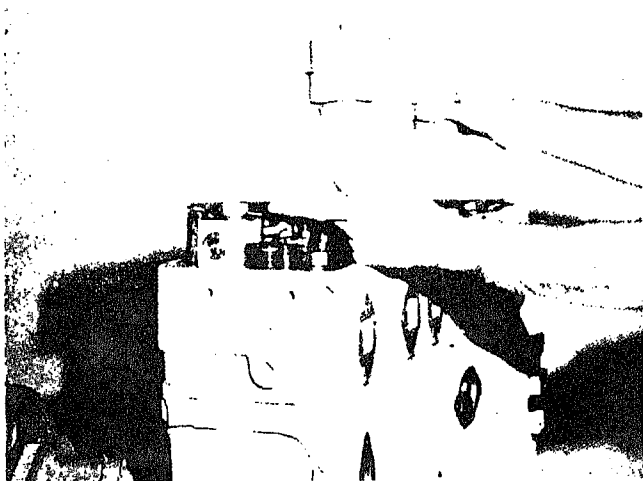

Fig. 0-30. Removing cylinder head cover
2. Lift cover and gasket from head, Fig. 0-30; discard gasket.